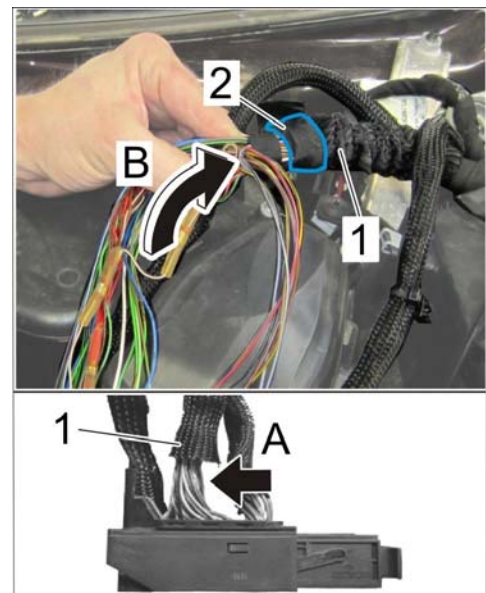

Figure 4
- 5.1 Pull protective sleeve \Rightarrow *Figure 4-1*- on the middle wire harness \Rightarrow *Figure 4-arrow A*- on the connector for the DME control unit back as far as possible \Rightarrow *Figure 4-arrow B*- and fix it in place with fabric tape \Rightarrow *Figure 4-2*-.